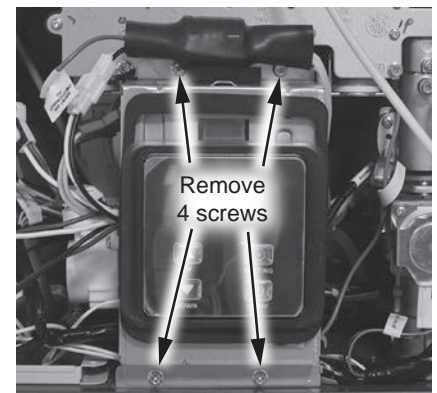

Figure 83 - Removing UIM and bracket screws
- 7 Locate the User Interface Module (UIM) and bracket. Remove the four screws securing bracket to the water heater. Place screws aside in a safe place for reinstallation. See Figure 83.